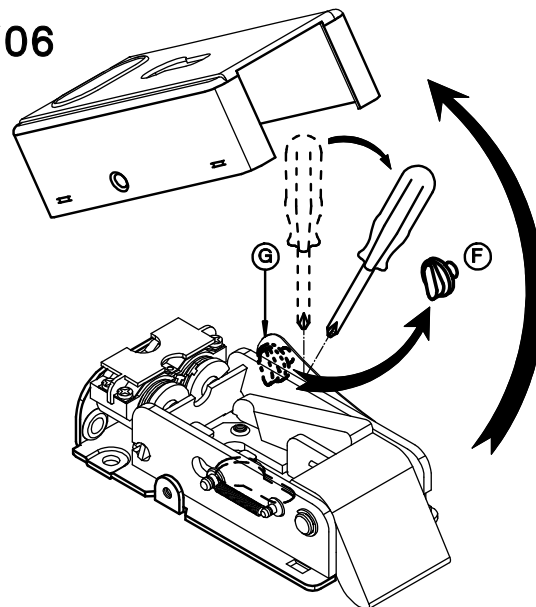

Fig.4
**(GB) TO ADJUST THE BACKSET OF THE LOCK (ONLY FOR LOCK V9083 WITH ROUND CYLINDER - SEE FIGURE 4)**
**(D) EINTRITT REGELUNG (NUR FÜR ELEKTROSCHLOSS V9083 MIT RUNDZYLINDER - SEHEN SIE FIGURE 4)**
**(F) POUR REGLER LA DISTANCE D'ENTREE (SEULEMENT POUR SERRURE V9083 AVEC CYLINDRE ROND - VOIR FIGURE 4)**
**(GB) HOW TO CHANGE OPENING FUNCTION (ONLY FOR LOCKS V06 AND V9083 - SEE FIGURE 4)**
**(D) ÖFFNUNG ÄNDERUNG (NUR FÜR ELEKTROSCHLÖSSER V06 ET V9083 - SEHEN SIE FIGURE 4)**
**(F) MODIFIER LA FONCTION D'OUVERTURE (SEULEMENT POUR LES SERRURES V06 ET V9083 - VOIR FIGURE 4)**